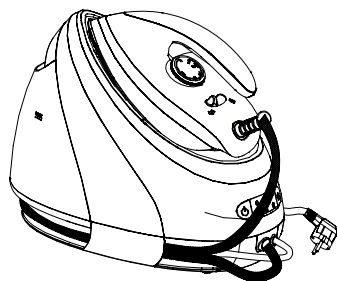

FIGURE 5
4. Place the iron on its iron rest and lock it (refer to the “Iron locking system” paragraph). **Allow the steam generator iron (iron and boiler) to cool down completely before storing it** in a safe place resistant to heat and moisture. Wrap the power and steam cords around the steam generator iron to store them (see figure 5 opposite).